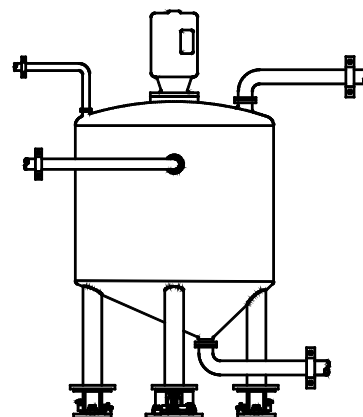

Figure 6-3: Tank Scale with Mixer and Rigid Piping
- **Tank Scale with Mixer and Rigid Piping:** When a tank has a powerful mixer and rigid piping, the tank's constant oscillation can cause fatigue cracking of the pipework. Regardless of whether the mixer operates during weighing, stabilizers can be used to steady the tank and prevent damage to the piping. Note that rigid piping is not recommended because it substantially degrades weighing performance (see Figure 6-3).